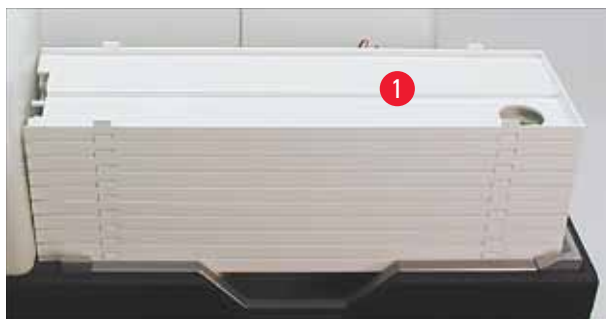

Fig. 38
1. Place a stack of trays (→ "Fig. 38-1") onto the lifting table of the unload station (→ "Fig. 38").